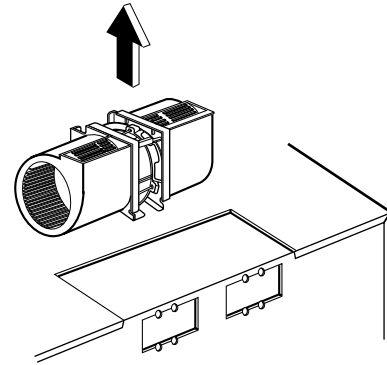

Figure 17-b
- (1) When mounting the door assembly to the oven assembly, be sure to adjust the door assembly parallel to the chassis. Also adjust so the door has no play between the inner door surface and oven frame assembly. If the door assembly is not mounted properly, microwaves may leak from the clearance between the door and the oven.
- (3) Carefully pull the ventilation motor ASS'Y out of the microwave oven. (See Figure 17-b)
- (2) Remove MOUNT, ALL loosening one screw loosening one screw securing the ventilation Motor and back plate. (See Figure 17-a)